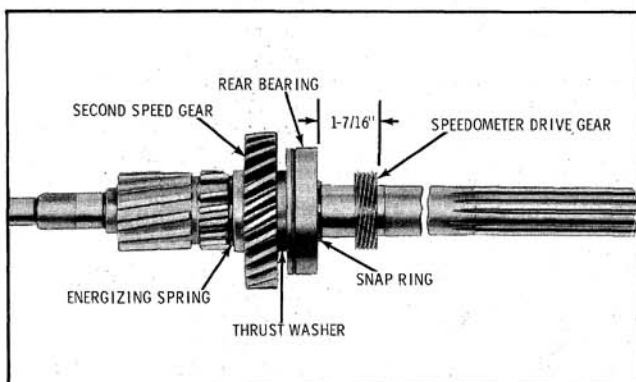

Fig. 7-11 Mainshaft Assembly
- To remove mainshaft from extension, expand bearing snap ring and tap rear of shaft with a soft hammer to bring shaft, speedometer drive gear, second-speed gear and bearing, as an assembly, forward out of extension. (Fig. 7-11)